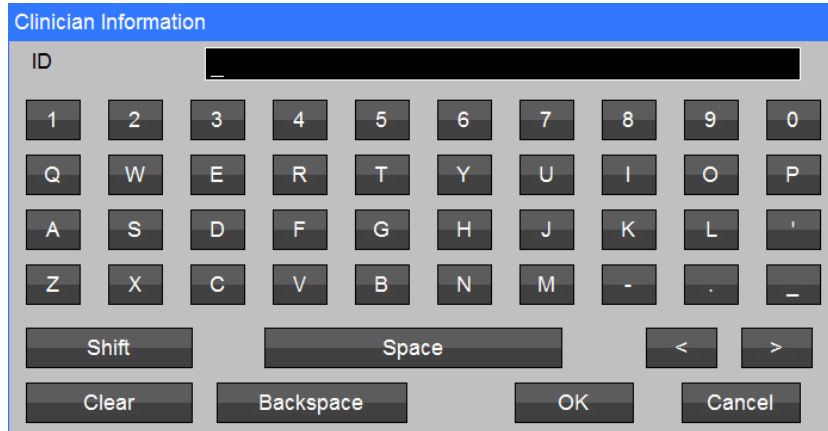

Figure 45: Enter Clinician Information Screen
- 2) Use the keyboard (refer to Figure 45) to enter Clinician specific information.